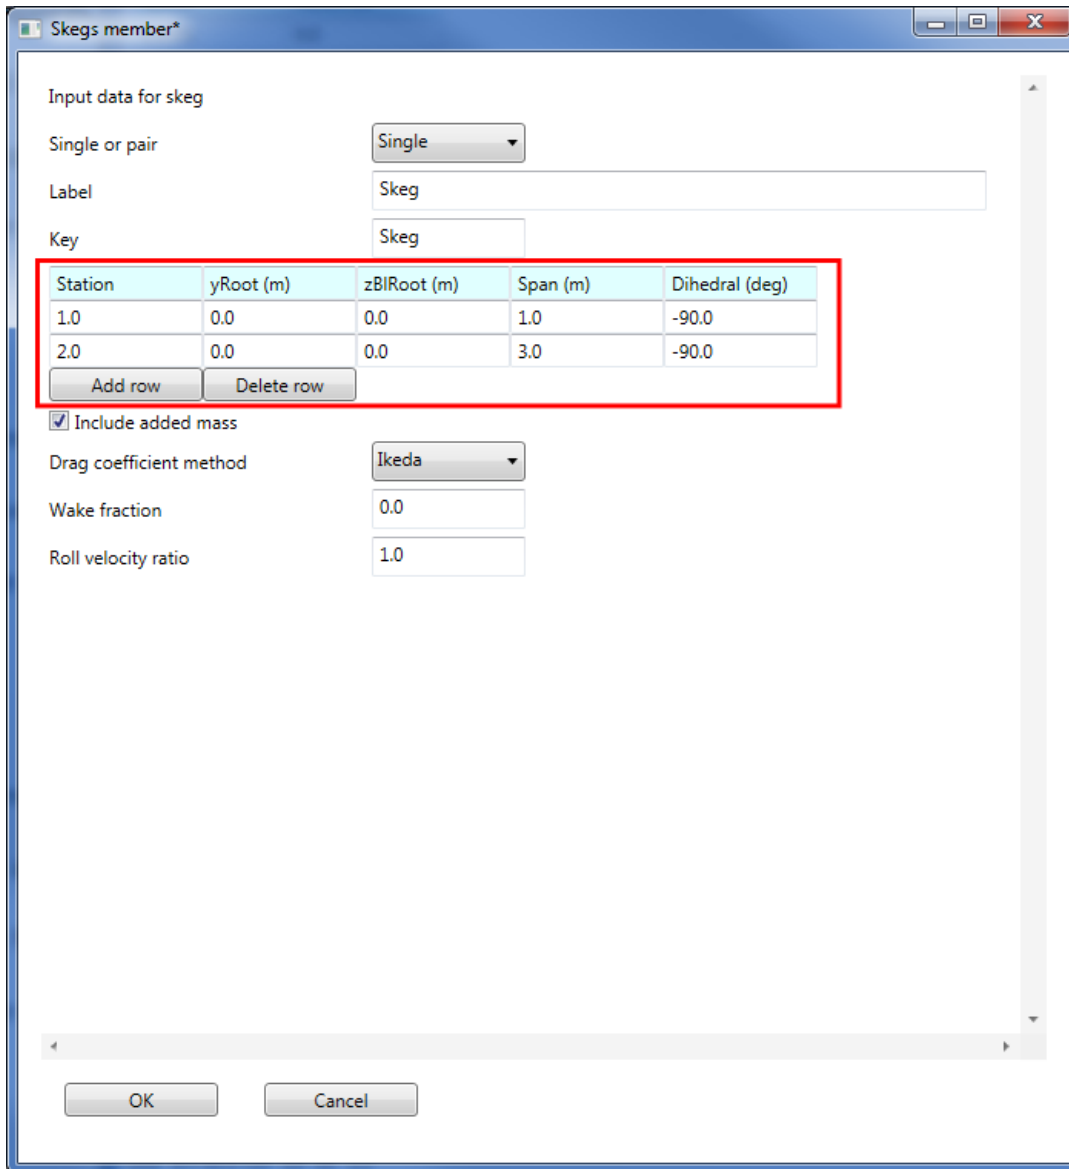

Figure 45: Editing the skeg geometry.
- ✦ Fill in the skeg geometry information as shown in Figure 45.